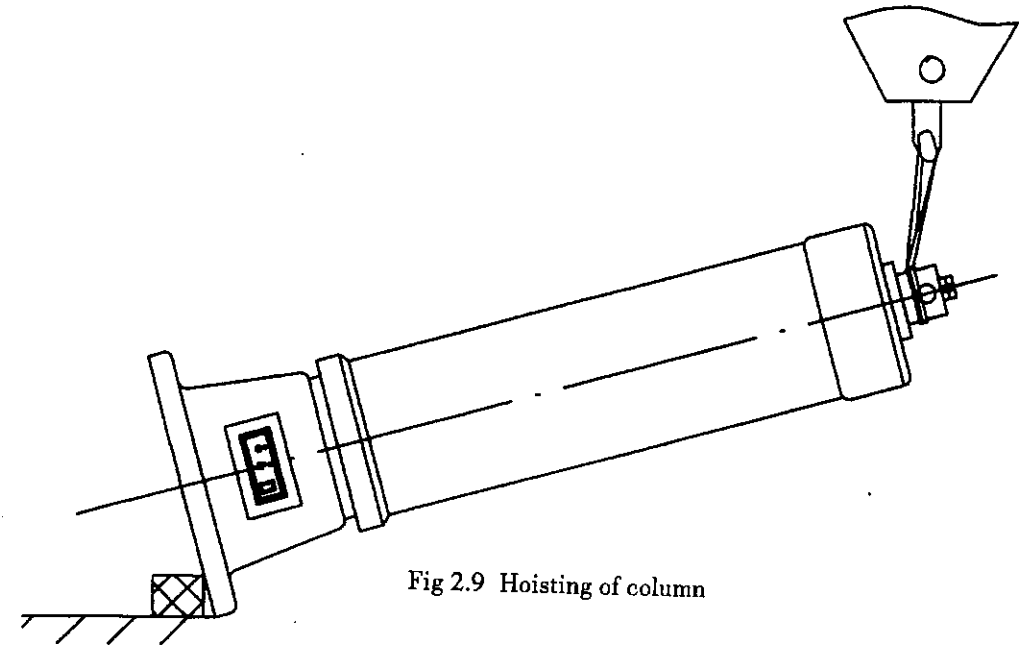
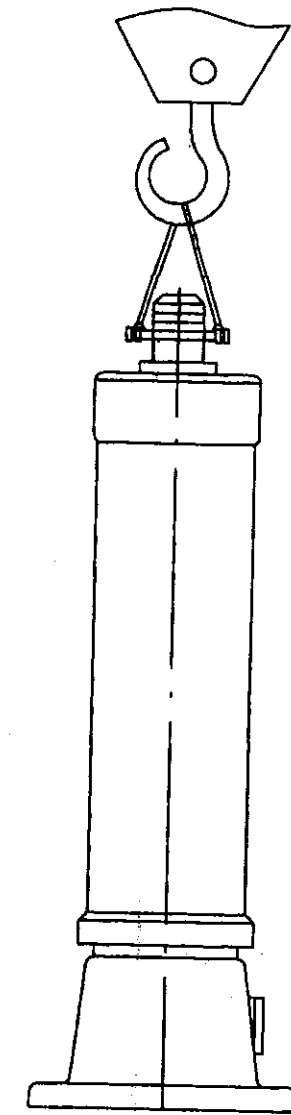

Fig 2.9 Hoisting of column
Fig 2.10 Column hading diagram
2.4.3 Hóist the column as shown in Fig. 2.9 and Fig. 2.10, wipe the combined surface clean, then remove the hoisting rope from the column, mount the column on the baseplate, and fasten the screws.